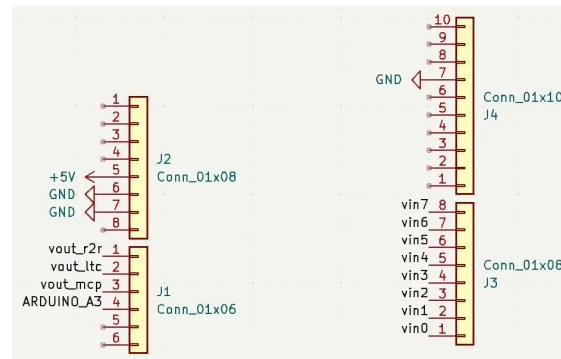

Figure 47: Header connectors labelled
- Connect the header pins to the circuit elements, keeping in mind that in some sense this represents connecting to the Arduino headers. Arduino digital outputs D2 to D9 should be used as the inputs of the R2R DAC (the figure shows D0 through D7 but that will cause the serial monitor to stop working when you test your PCB, so offset the pins so that D2 through D9 are connected). Additionally connect the output of the R2R DAC to A0, the output of the LTC to A1, and the output of the MCP to A2. And connect the GND and 5V pins so that the Arduino shares its power with your PCB, as seen in Figure 47. You will notice that the right connectors have been reflected so that their numbers increase in the upwards direction. This is to reflect that pins on components increase in the counterclockwise direction and will help orient the parts on the PCB layout. These are placed oriented downward to mount directly into the Arduino.